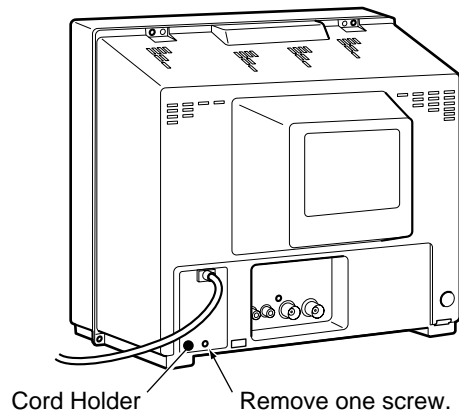

Fig. 2-1
- Referring to Fig. 2-1, remove one screw that secure the Cord Holder and remove the Cord Holder.